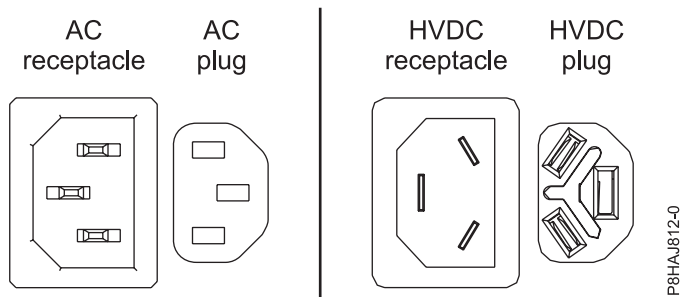

Figure 33. AC and HVDC connectors
- The power cord is fastened to the system using the hook-and-loop fastener (A). If you are placing the system in a service position after disconnecting the power cords, then ensure that you unstrap the fastener.
Figure 33 shows the supported alternate current (AC) and high voltage direct current (HVDC) connectors.